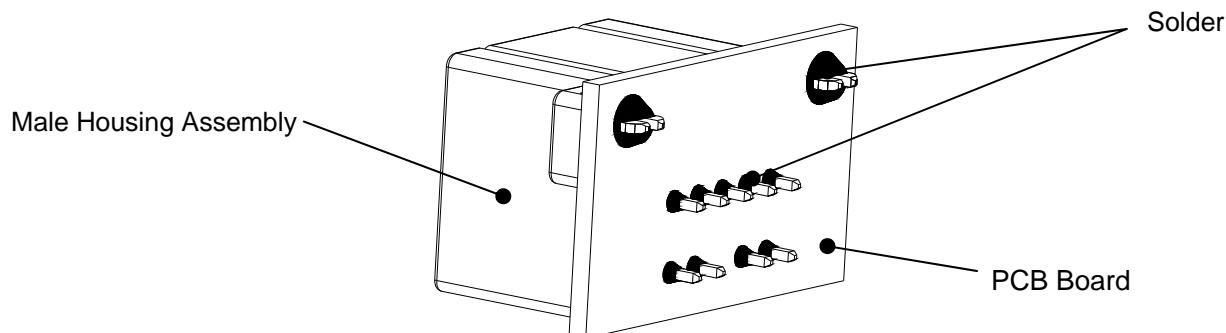

Figure 24. Placing the Male Assembly on the PCB Board (e.g. 9 positions)
d) Solder the male pins and reinforcement pins on the PCB board. See Figure 24.